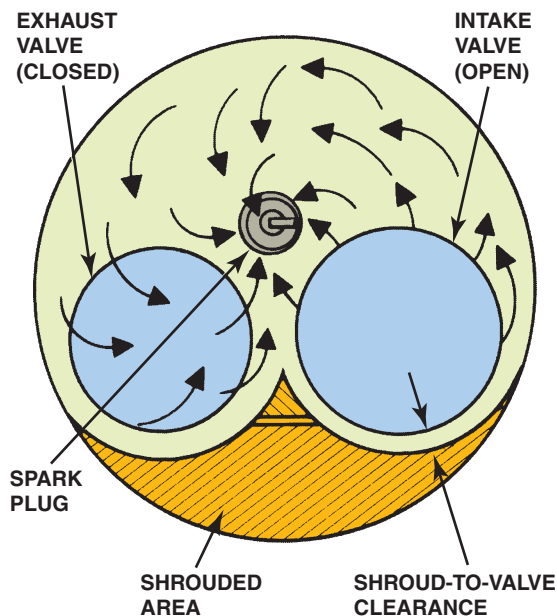

FIGURE 26-5 The shrouded area around the intake valve causes the intake mixture to swirl as it enters the combustion chamber.
- **Valve shrouding.** Shrouding means that the valve is kept close to the walls of the combustion chamber to help increase mixture turbulence. Although shrouding the intake valve can help swirl and increase turbulence, it also reduces the flow into the engine at higher engine speeds. ● **SEE FIGURE 26-5.**